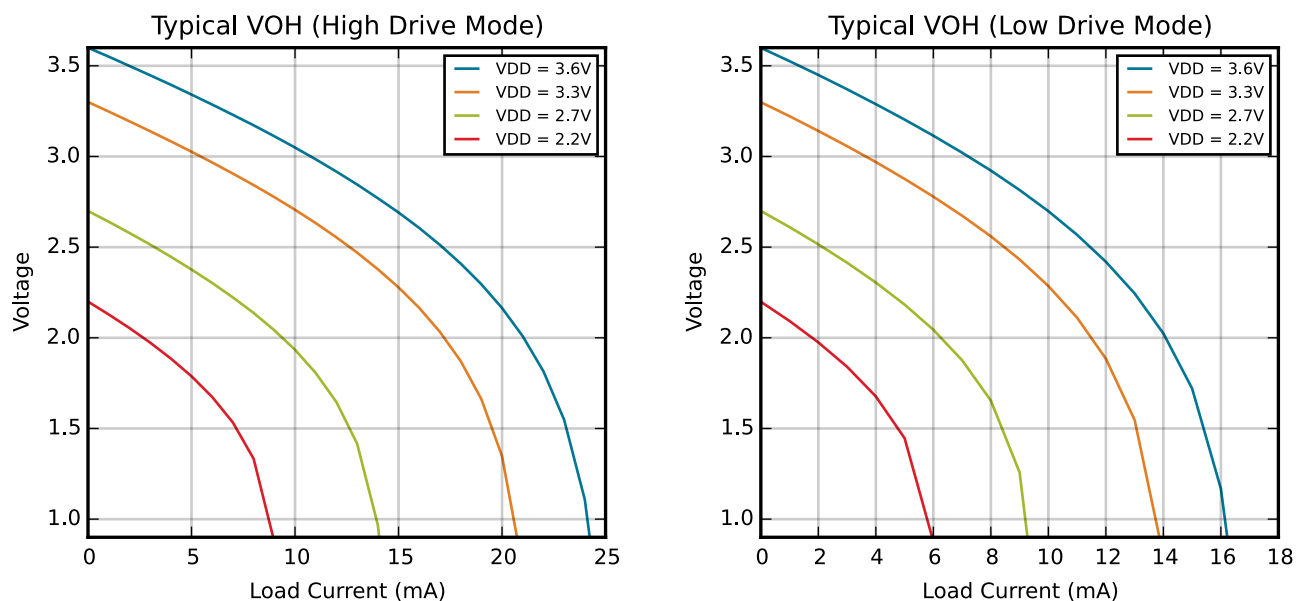
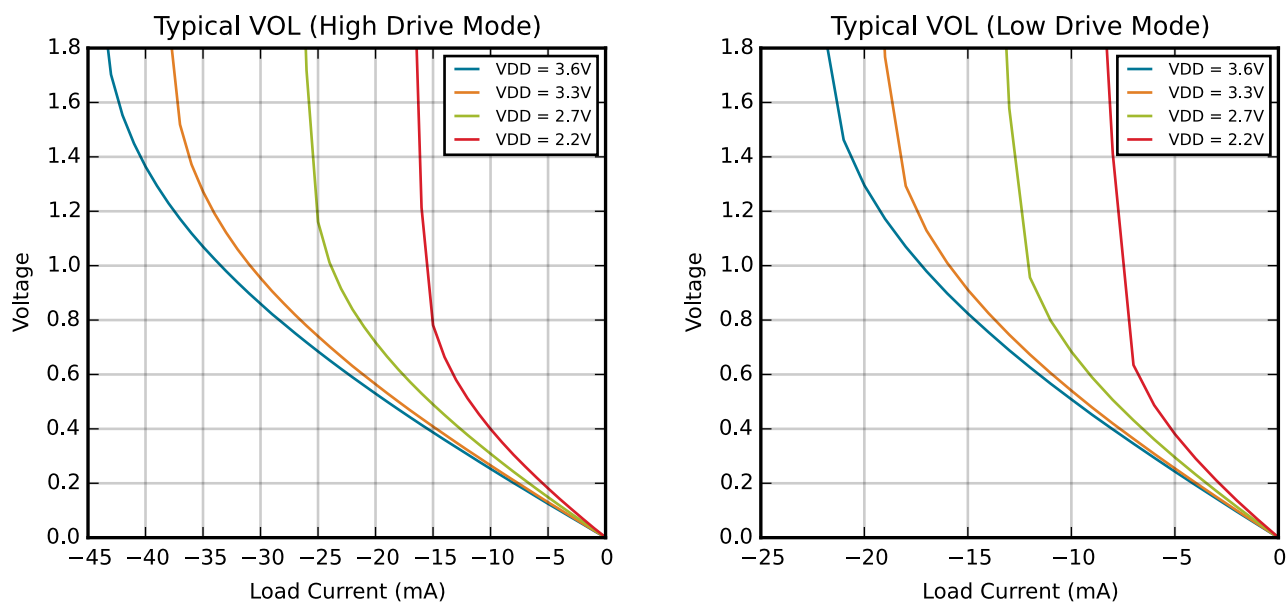

Figure 4.6. Typical  $V_{OH}$  Curves
Figure 4.7. Typical  $V_{OL}$  Curves
1. See Figure 4.6 Typical VOH Curves on page 32 and Figure 4.7 Typical VOL Curves on page 32 for more information.